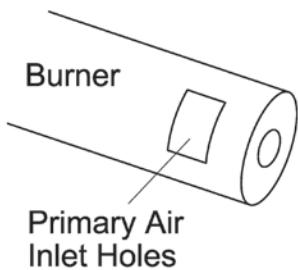

Figure 23 - Burner Primary Air Inlet
2. Inspect burner, pilot and primary air inlet holes on injector holder for dust and dirt (See Figure 23).